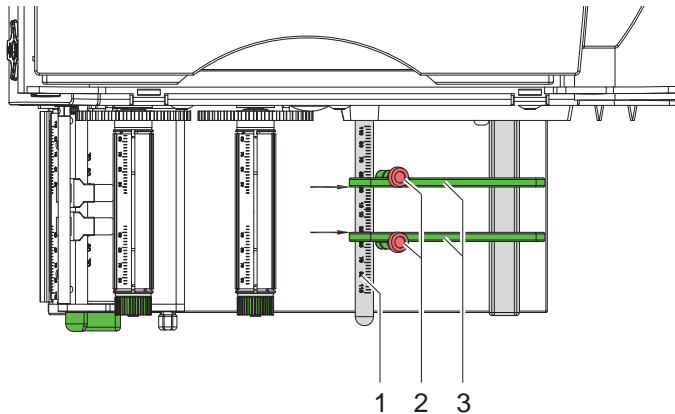

Fig. 5 Adjusting the guide at the roll retainer
2. Open cover (11).
3. Loosen knurled screws (2).
4. Adjust the marked faces of the guides (3) at the scale of the guide axle (1) to the width of the media roll. Figure 5 shows the setting for a roll width of 30 mm.
5. Tighten knurled screws (2).